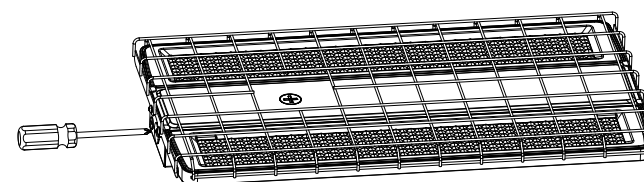

Figure 8
Step 1. Place the wire guard on the lamp and fix it with screws (Figure 8).